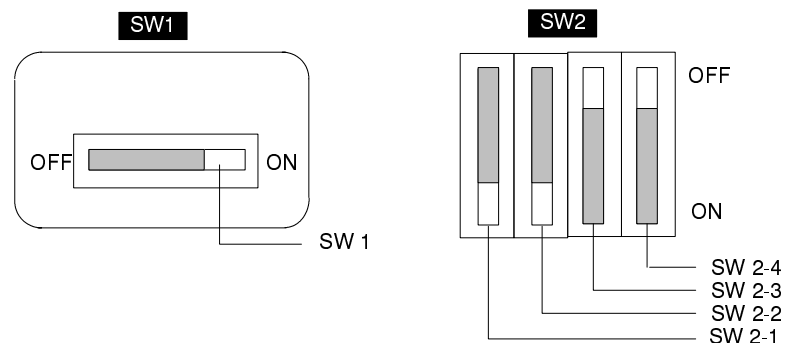

Figure 16
2. Slide the ES100 controller out of the plastic housing and locate Switch 1 and Switch 2 on the top of the controller near the face plate. Make sure that SW1, SW2-1 and SW2-2 are turned ON. SW2-3 and SW2-4 should be turned OFF. See Figure 16.